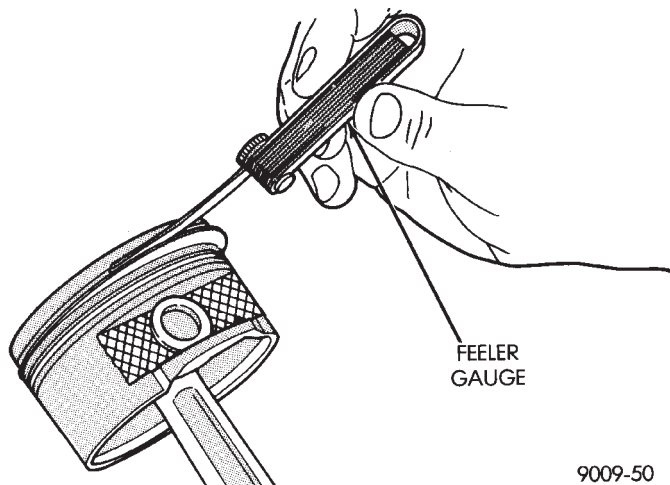

Fig. 9 Measuring Piston Ring Side Clearance
(2) Check piston ring to groove clearance: (Fig. 9). Refer to specification (Fig. 8).